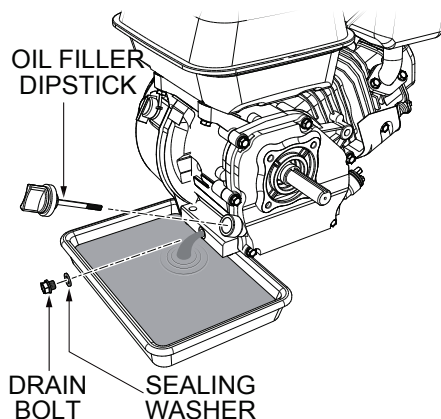

Figure 36. Draining Engine Oil
1. Drain the engine oil when the oil is warm as shown in (Figure 36).